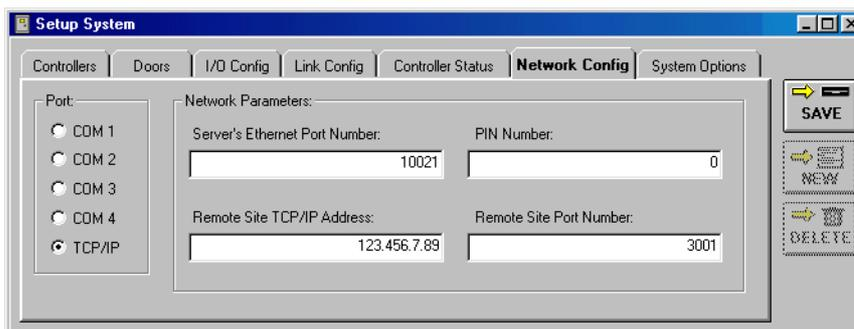

Figure 23 - *Doors* TCP/IP Settings
1. Check the IP address and port number (see Figure 23).